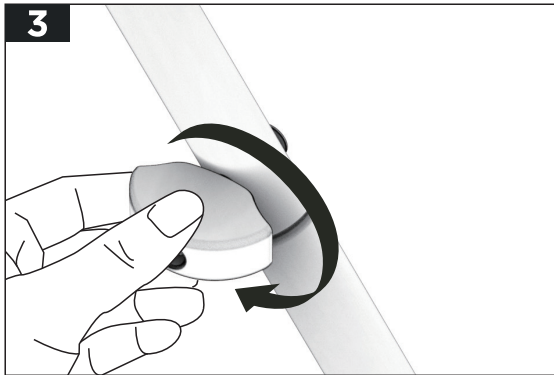

Fig. 4
c. Turn the locking knob clockwise to tighten. Now, the middle shaft is locked to the lower shaft. (Fig.4)